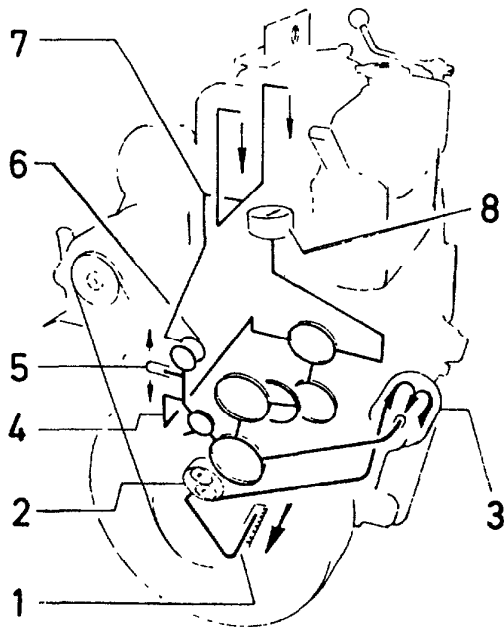

Fig 17
From the bored out camshaft the oil is taken via the bearing (6) to a channel on the outer bearing surface. The upper outlet also feeds a pulsating oil supply via the internal pipe (7) to the rocker arms. Fig. 17 shows Type 2J. In the Type 2G engine the pipe (7) is led out through the after cylinder head.